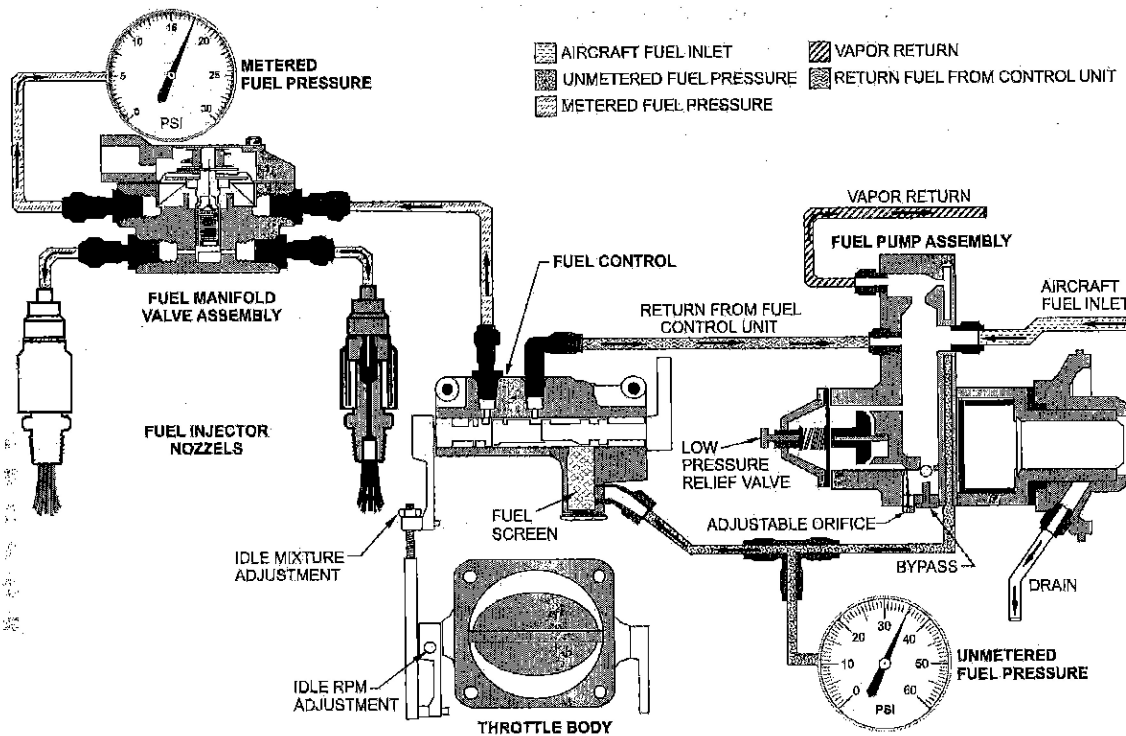

Figure 6-3. Typical Naturally Aspirated Fuel System Schematic (with Fuel Control Assembly)
4. Connect a tee fitting (P/N MS51523-B4) directly to the fuel connection loosened in step 2 (see Figure 6-3 through Figure 6-6, as applicable). Torque the tee fitting to the value specified in Appendix B.